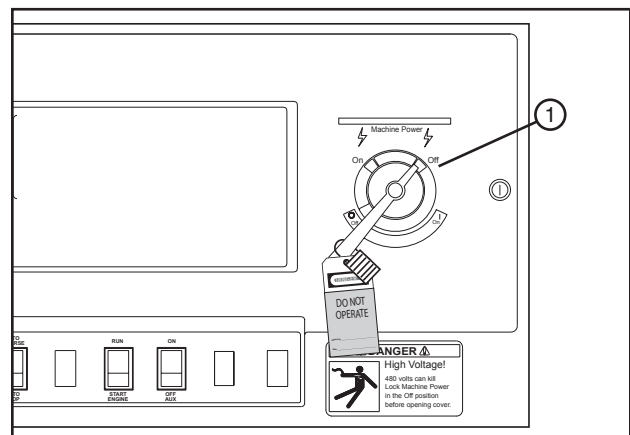

Figure 55-3 1. Main Power Disconnect
4. SHUT OFF and LOCK the control panel main power disconnect. FILL OUT the blue (OSHA safety color code) tag and attach to the disconnect after locking. See figure 55-3.